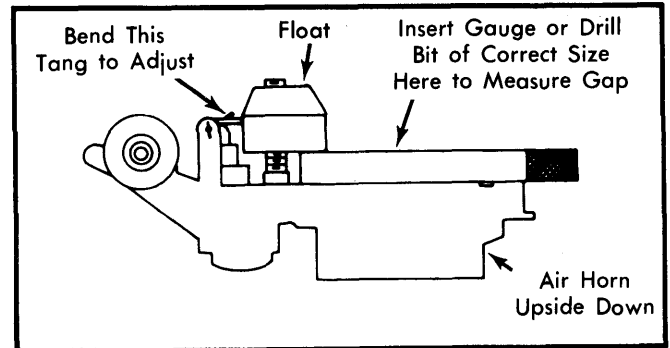

Fig. 1 Adjusting Float Level
1) With air horn and gasket removed, turn air horn upside down. Allow weight of float to press down against float needle valve. See Fig. 1.